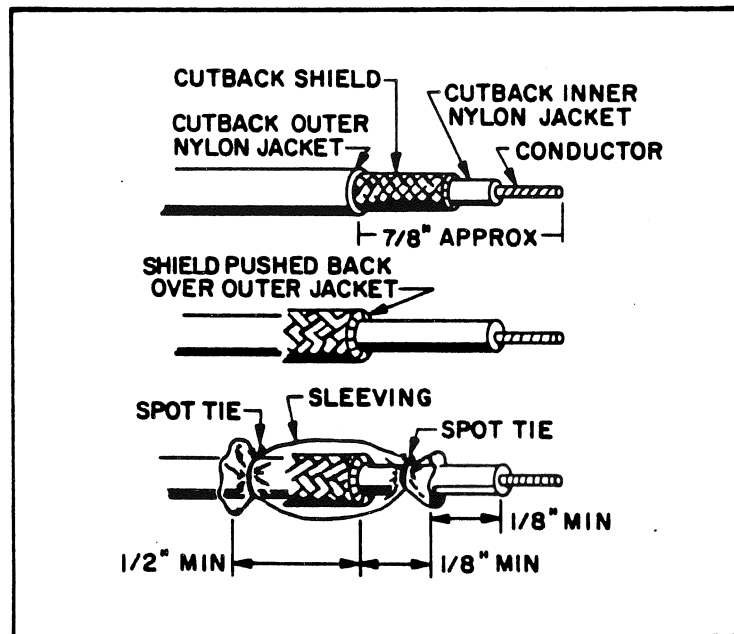

Figure 9-8. Method of Terminating Ungrounded Shield
One method of so terminating an ungrounded shield is shown in Figure 9-8 and consists of the following steps: (1) The outer nylon jacket is cut back about 7/8 in. from the end of the wire. (2) The metal shield is cut back as shown, care being taken not to damage the inner nylon jacket. (3) The desired length of inner nylon jacket is then removed, using the correct wire stripper.